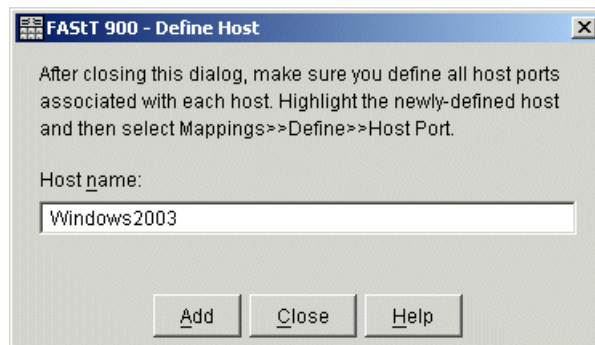

Figure 5-36 Define Host
- On the Define Host dialog (Figure 5-36), enter the name of the host you want to define in the selected group. If you finished entering all hosts for this group, click **Close**. Then choose the next host group and define the hosts in that group.